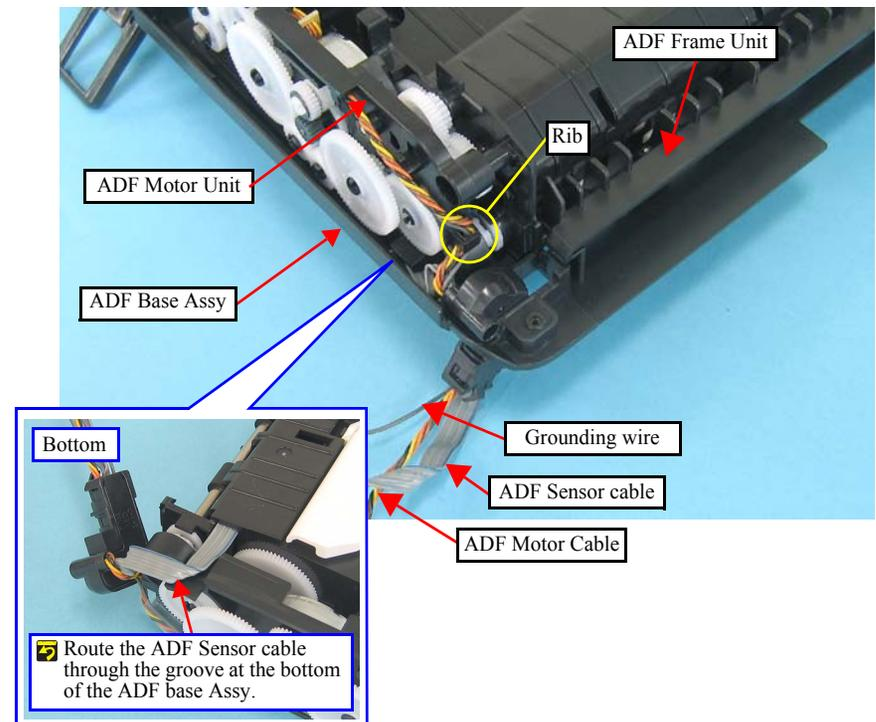

Figure 4-141. Removing the ADF Frame Unit (1)
- Route the ADF Motor cable as shown in Figure. 4-141.